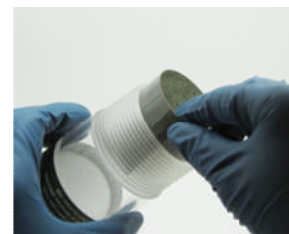

Figure 4
1.3. Remove exhausted colorimetric indicator (Figures 4 & 5)